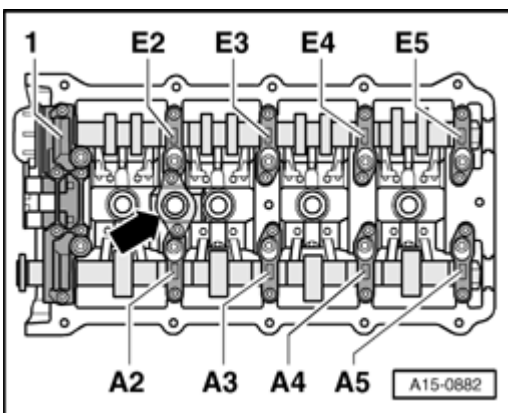

Fig. 361: Removing/Installing Bearing Caps
- Note installation position and allocation --> **Fig. 361**